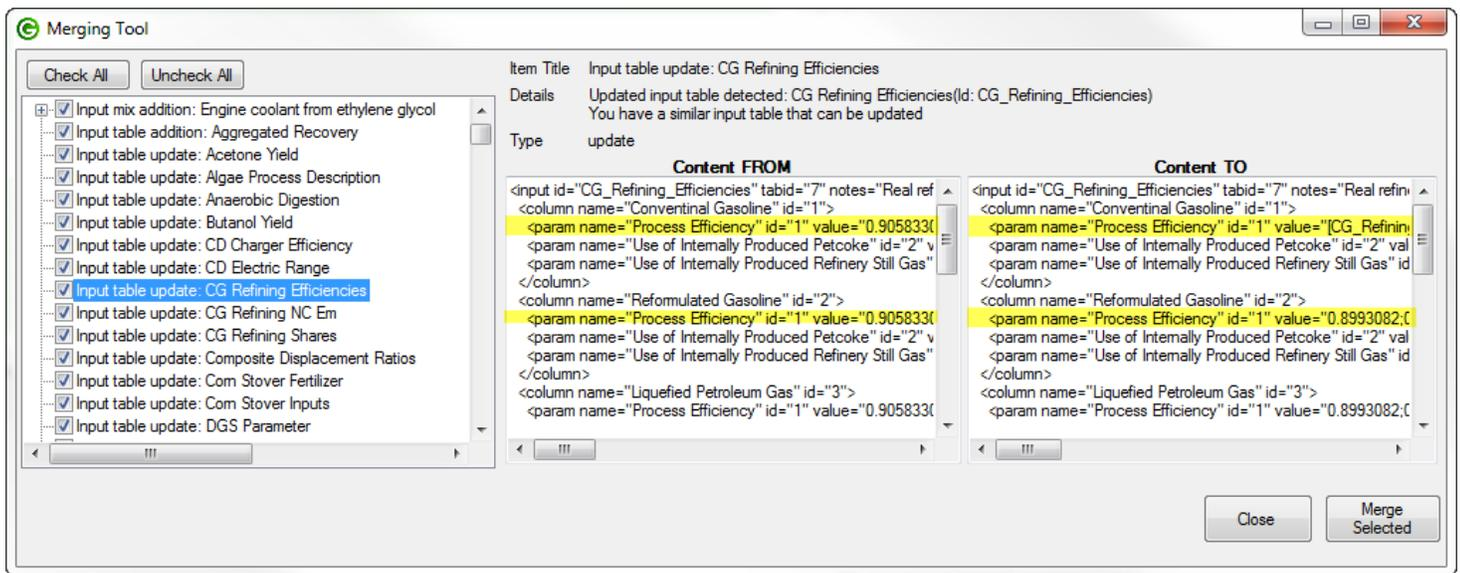

Figure 118: Merge data interface.
**The middle column** displays data, in XML format, that comes from the XML data file that you are intending to merge data from. The data displayed in this column is read only data and informational only. The data shown is the data that is different from the **To XML File** right column as the highlighting in Figure: 118 shows.
**The column on the right** displays data, in XML format, that comes from the XML data file that you are intending to merge data to. The data displayed in this column is read only data and informational only. The data shown is the data that is different from the **From XML File**. middle column as the highlighting in Figure: 118 shows.